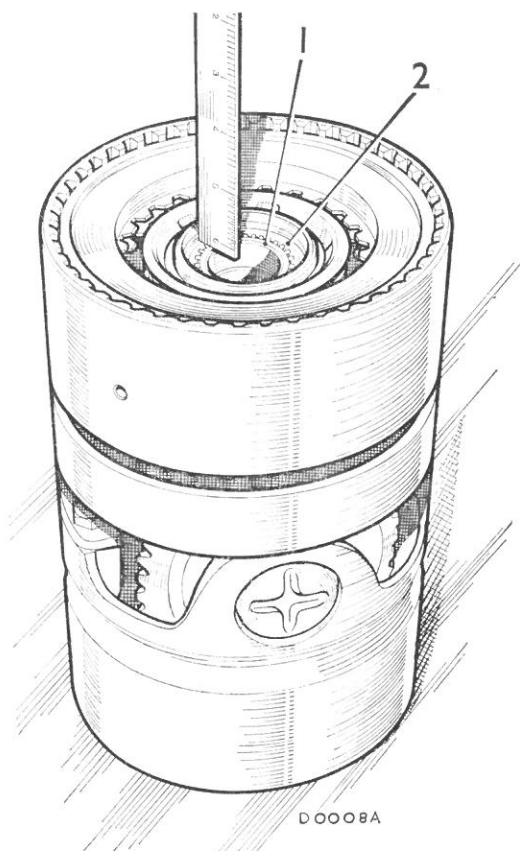

Fig. Fa.45
- (28) Check across the splined end of the reverse output shaft and the adjacent face of the top and reverse clutch (Fig. Fa.45). Both faces must be exactly level with no gap, to ensure that the third speed reaction gear has no end-float and the correct backlash is maintained. If both faces are not level, remove and measure the thickness of the selective steel washer fitted in item (27) and fit the correct selective washer from the range available (see washer chart below).